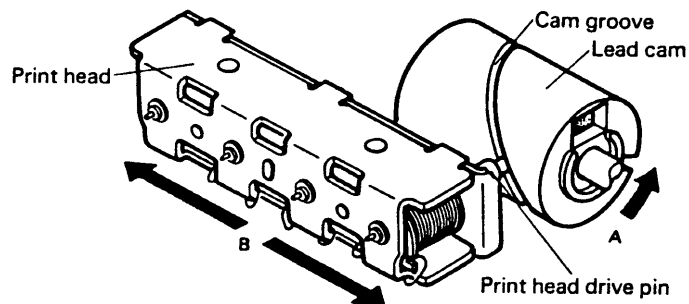

Fig. 1.6 Principle of Print Head Movement
- 1 The lead cam has a groove (cam groove) formed as shown in Fig. 1.6 and a print head drive pin secured to one end of the print head is engaged in this cam groove. Rotation of the lead cam in direction A causes the print head drive pin to move along the cam groove and consequently the print head to reciprocate as shown by arrow B.